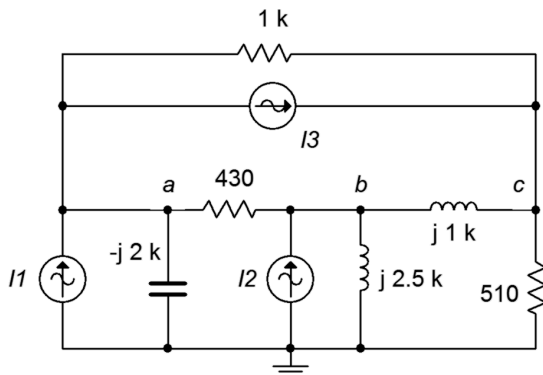

Figure 6.21
41. Given the circuit in Figure 6.21, use nodal analysis to determine v_c . $I1 = 3\text{E-}3\angle 0^\circ$,
42. Use nodal analysis to find the current through the $-j2\text{ k}\Omega$ capacitor in the circuit of Figure 6.21.